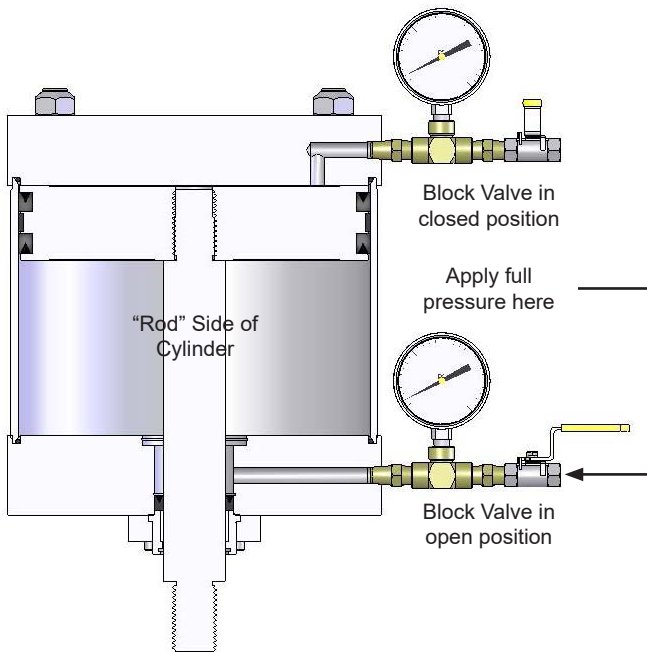

Figure 2. Piston Rod leakage test set-up
1. Fully pressurize “rod” side of actuator cylinder as shown in figure 2.